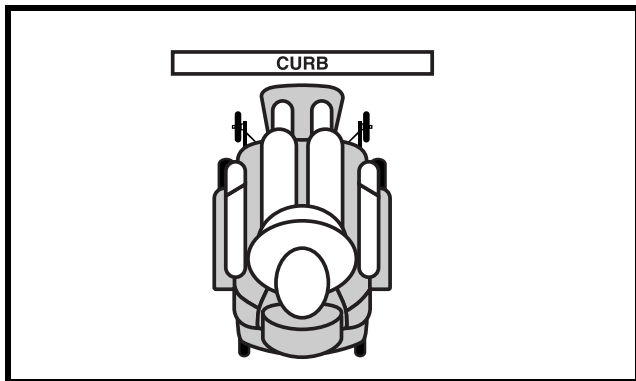

Figure 2. Correct Curb Approach
1. Approach the curb or obstacle slowly, and make sure the power chair is traveling perpendicular to the obstacle. See figure 2.
1. Approach the curb obstacle slowly, and make sure the power chair is traveling perpendicular to the obstacle. See figure 2.